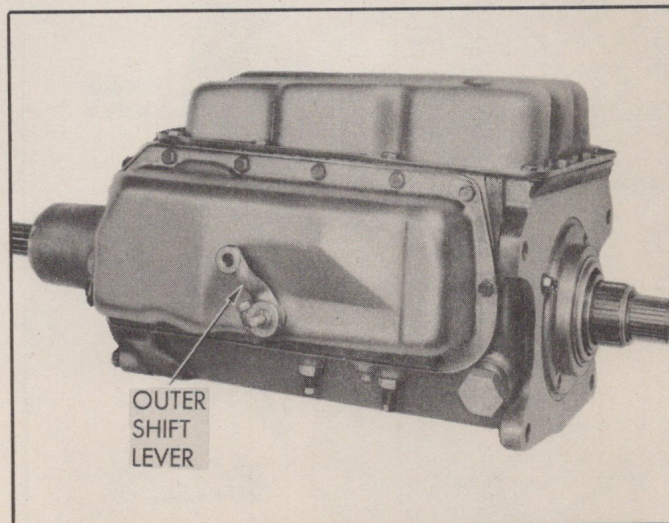

Fig. 108—Outer Shift Lever in Reverse Position
3. Move shift lever on side of transmission toward rear to reverse position (Fig. 108).